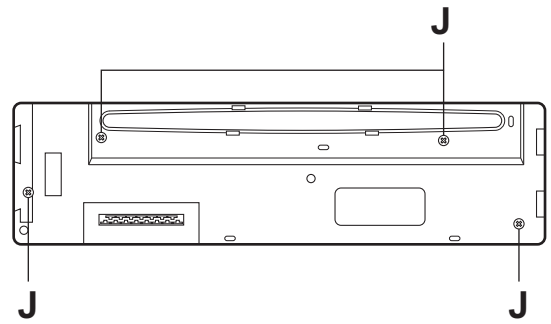

Fig.9
3.1.8 Removing the front board (See Figs.9 to 11)